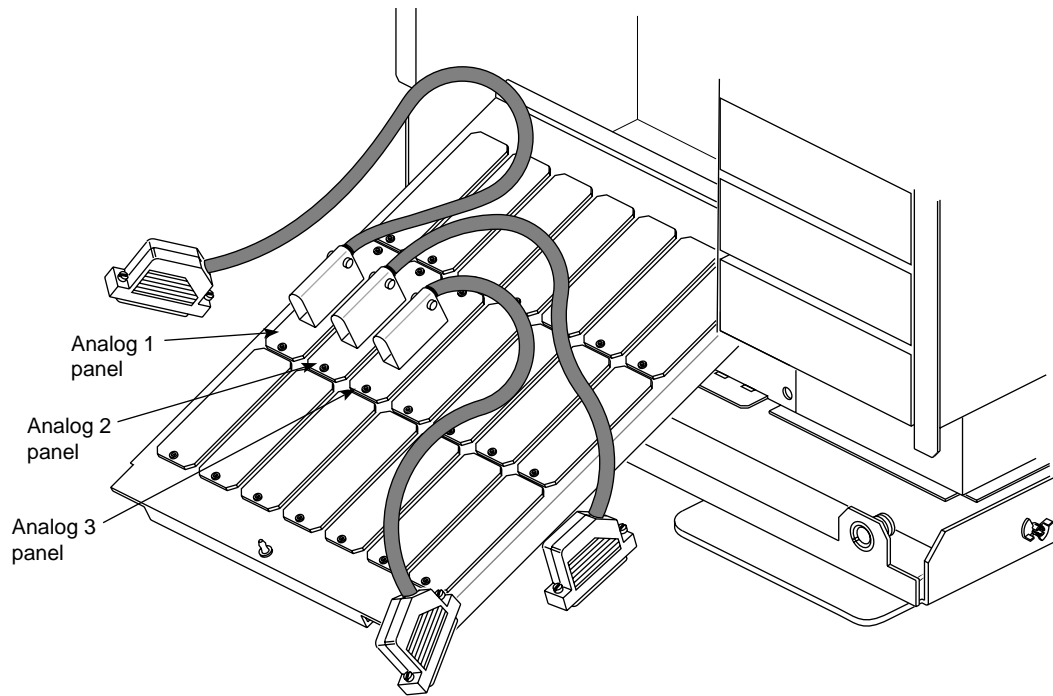

Figure 3-2 I/O Panels Installed in a Single-pipe System
3. Attach the other two MCO I/O panels as in step 2. In a multipipe system, attach each set of I/O panels. Figure 3-2 shows all panels installed in a single-pipe system.